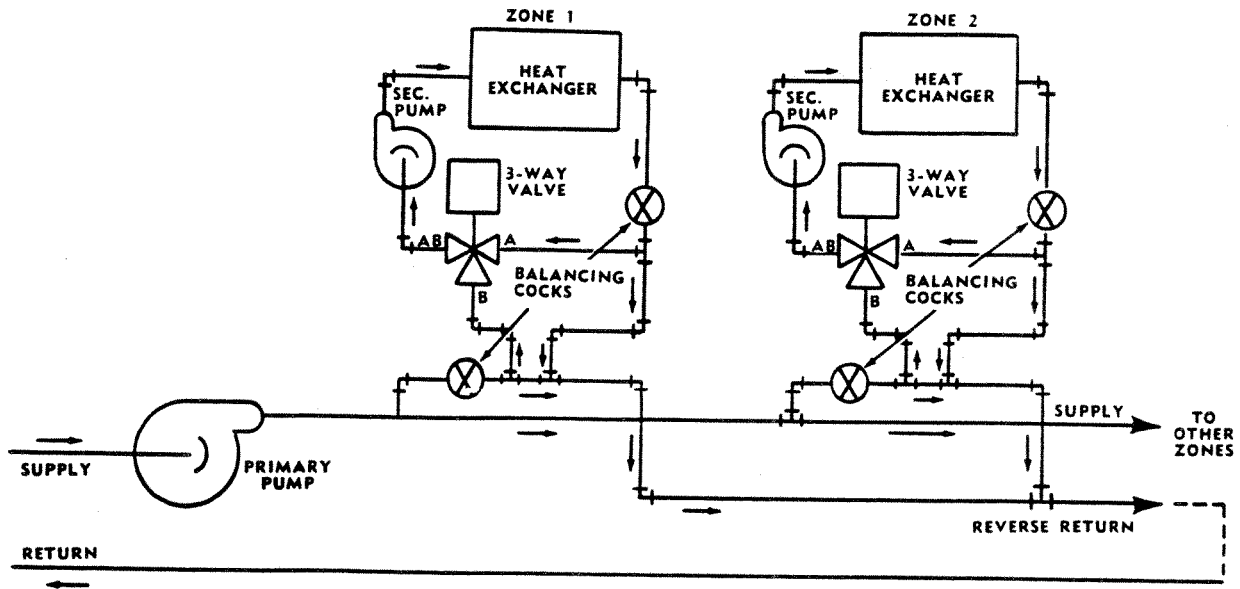

FIG. 2
- B. To maintain constant water flow in a zone heat exchanger while controlling its heat output. In this case, a secondary pump is required for each zone heat exchanger. The three-way valve varies the amount of return water recirculated from the zone heat exchanger in relation to the amount of supply water delivered to the exchanger from the primary circuit. Thus, heat output is individually controlled by varying the temperature of the exchanger supply water, rather than the water flow rate. See Fig. 2.